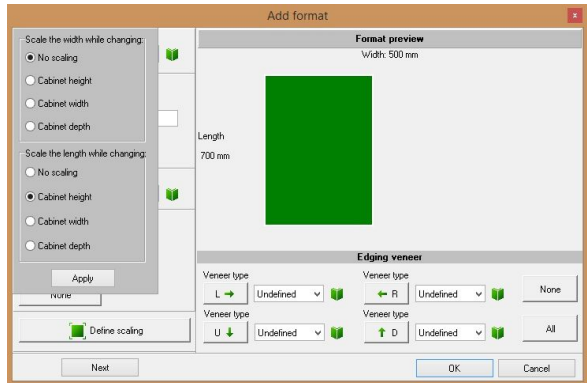

Fig. 112 – exemplary format scaling
- for example: for a side format you can define, that together with the change of cabinet's depth, also the width of the format will be accordingly modified, and when the height of the cabinet will be altered, also the length of the particular format will change proportionally (Fig. 112);